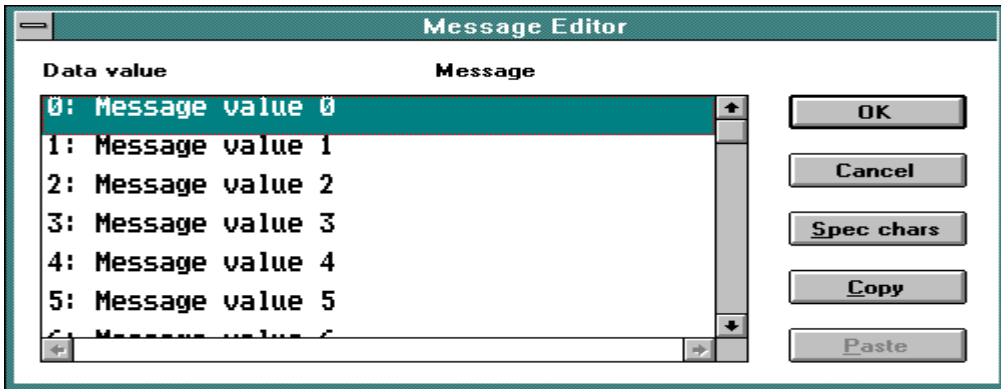

Figure 3-3
3. Select the message you wish to edit by clicking the left mouse button on the desired value and begin typing the message. The dialog box in which the messages will be entered is shown in Figure 3-3.